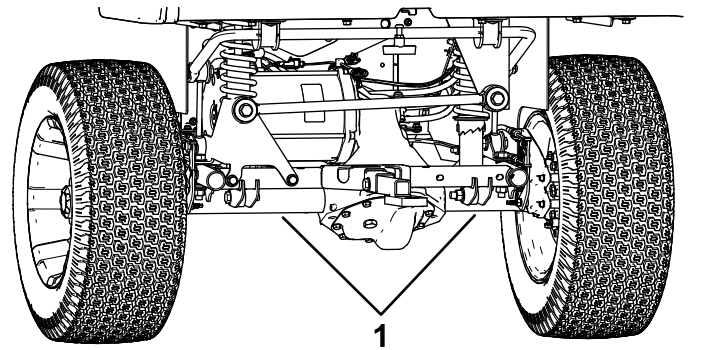

Figure 30
- The lifting point at the rear of the machine is located under the axle tubes (Figure 30).